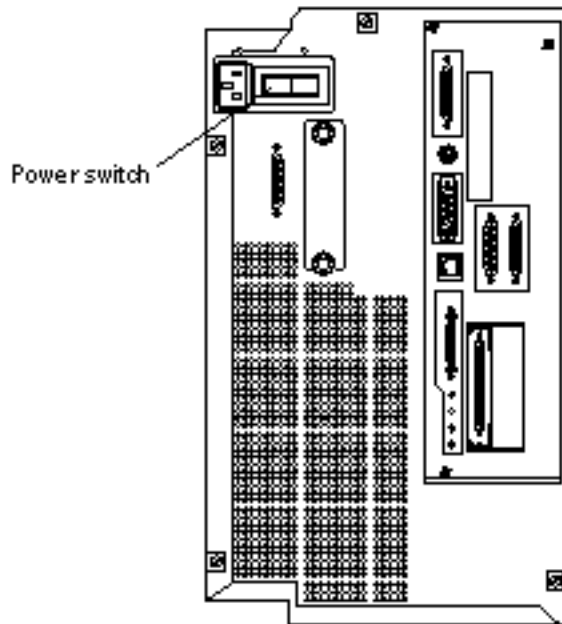

Figure B-3 Powering On the Netra NFS Server
7. Turn the power switch at the rear of the Netra 150 server to the ON (|) position (Figure B-3).